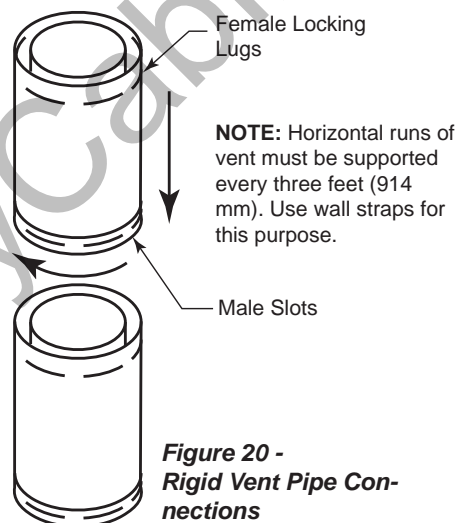

Figure 20 -
Twist-Lock Procedure: The female ends of the pipes and fittings have three (3) locking lugs (indentations). These lugs will slide straight into matching slots on the male end of adjacent pipes and fittings. Push the pipe sections together and twist one section clockwise approximately one-quarter turn until the sections are fully locked. *Figure 20*